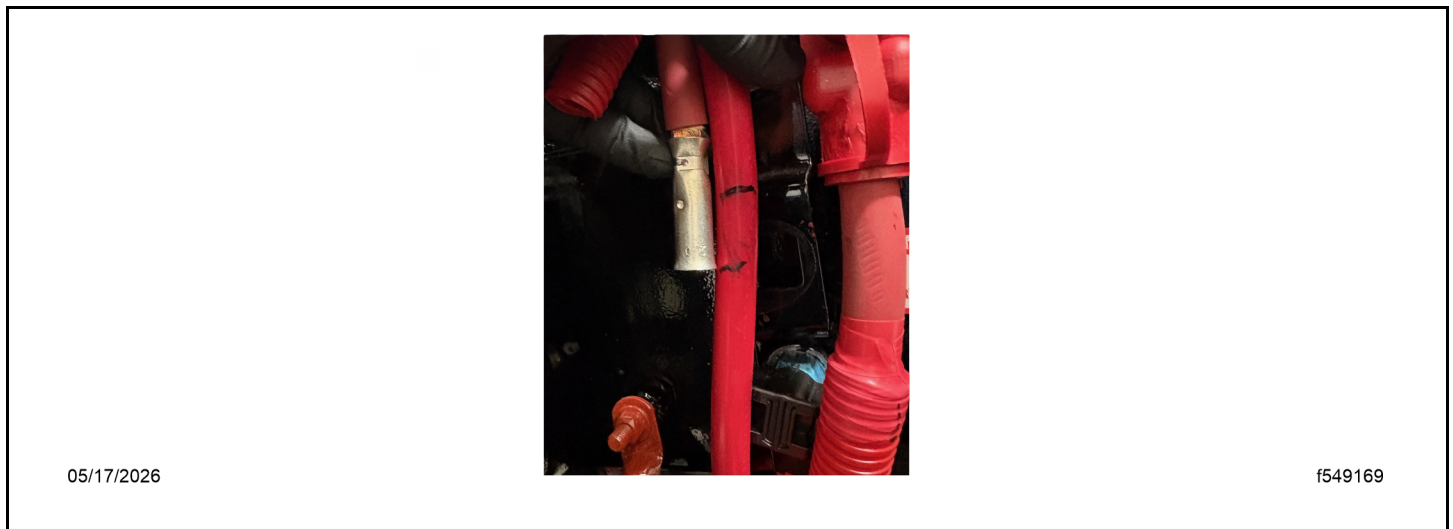

Fig 9, Determining the Starter Cable Length
26. Determine the ideal length for the new starter cable between the starter and butt connector. Cut the cable. See Fig. Fig. 9.